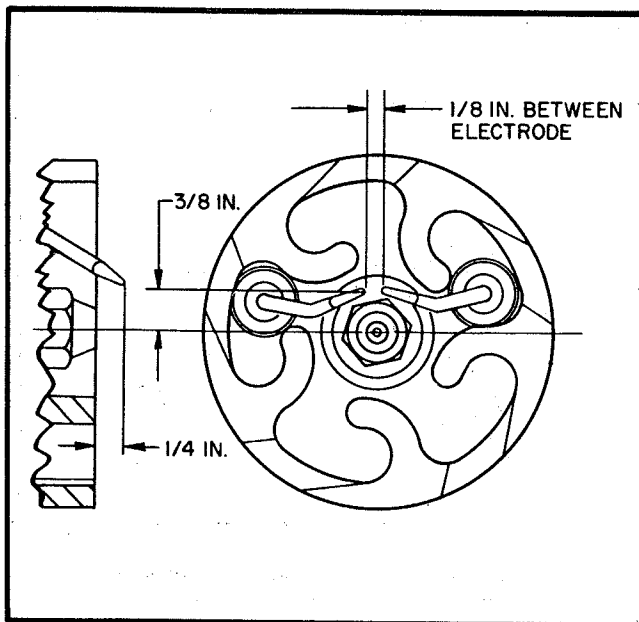
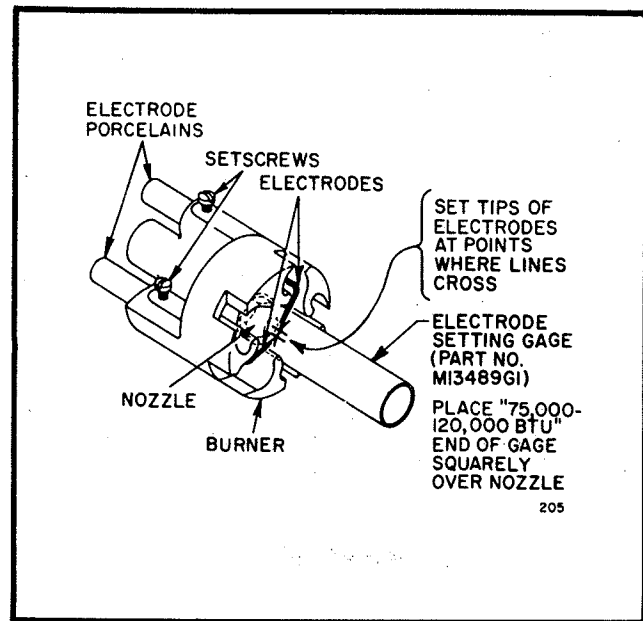

Figure 4. Electrode Setting Diagram
Figure 5. Use of Electrode Setting Gage
3. Refer to Figure 4 for electrode settings. Figure 5 shows how to use the Electrode Setting Gage, Part No. M13489G1, which is available from your dealer. Use the 75,000 - 120,000 BTU end of the gage when setting the electrodes on these heaters.